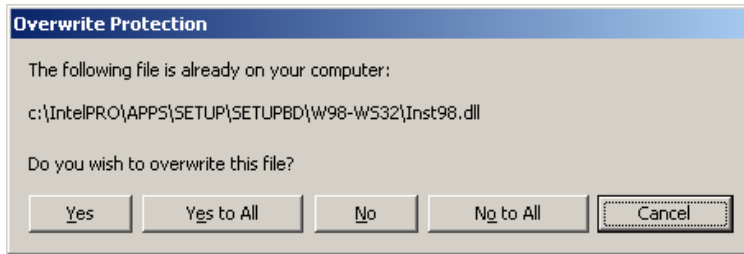

Figure 7-21: Overwrite Protection
Step 10: If the **Overwrite Protection** window appears (Figure 7-21), make the appropriate choice to either continue the installation process or not.